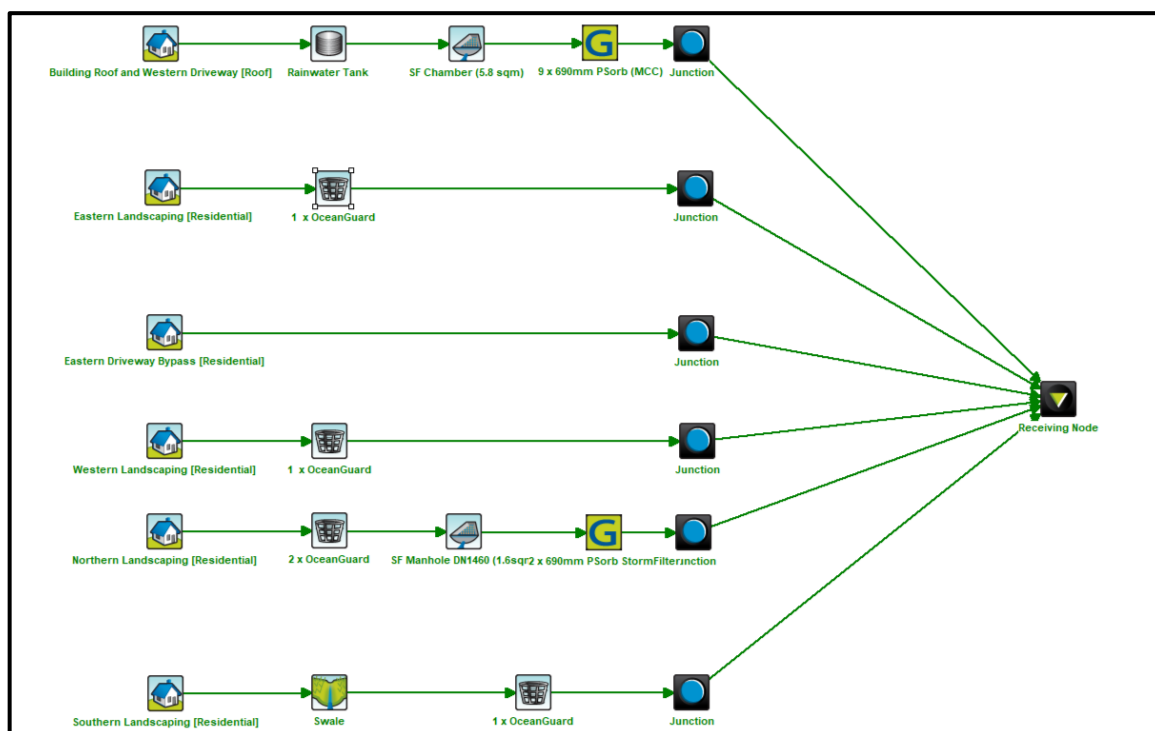

Figure 5: MUSIC Schematic
A water quality analysis of the proposed development was undertaken using the Model for Urban Stormwater Improvement Conceptualisation (MUSIC) software. Through MUSIC modelling, it has been determined that a total of eleven (11) 690mm Psorb Stormfilter Cartridges, five (5) OceanGuard filter baskets, a 200kL rainwater tank and landscaped swales are sufficient to meet Council requirements. The proposed treatment train is shown in Figure 5.